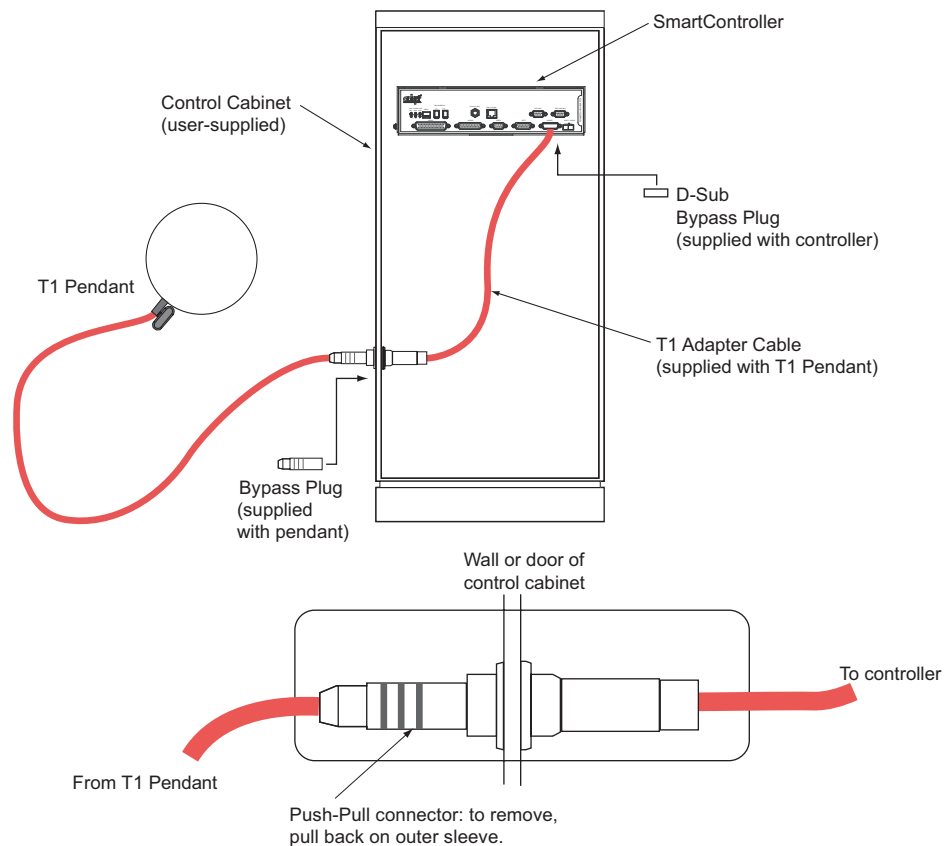

Figure 2-1. Installing Pendant in Equipment Cabinet
1. Plug in the pendant cable connector to the matching connector on the adapter cable. See Figure 2-1.